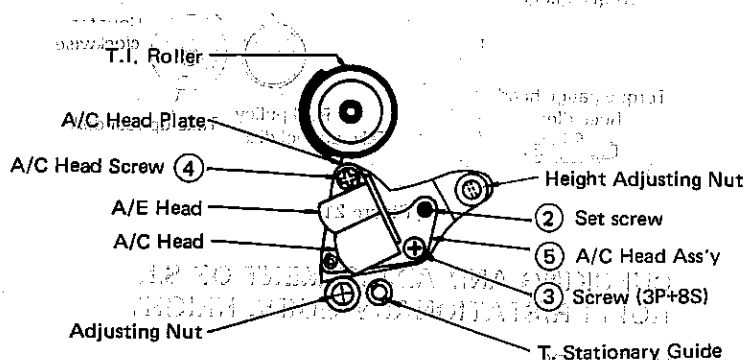

Figure 24.
- 1) Carry out the following adjustments with reference to figures 24 and 26, if an abnormality can be seen in the travel mode.
4. If adjustment is needed, adjust by means of the set-screw (2 in figure 24)). Turn the screw (2) slightly. N.B. Do not move the T. Stationary guide.
7. Turn the tracking knob to its preset position and turn the adjusting nut (in Fig. 24) so that the envelope is at a maximum before performing adjustment of the AC head.